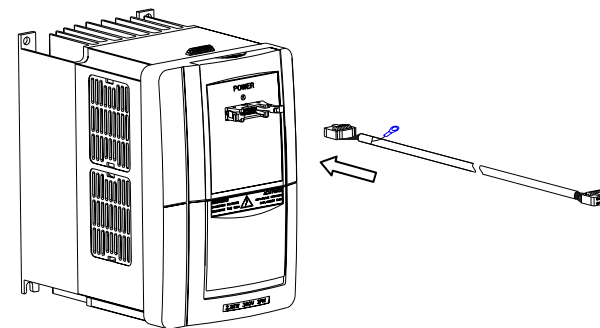

Fig. 3-10 Mounting Diagram for the operator panel and connecting wire of the inverter Model A
Step 3. Plug the ground end of connecting wire provided in the optional components into the slot of jack panel (as shown in the figure 3-10).